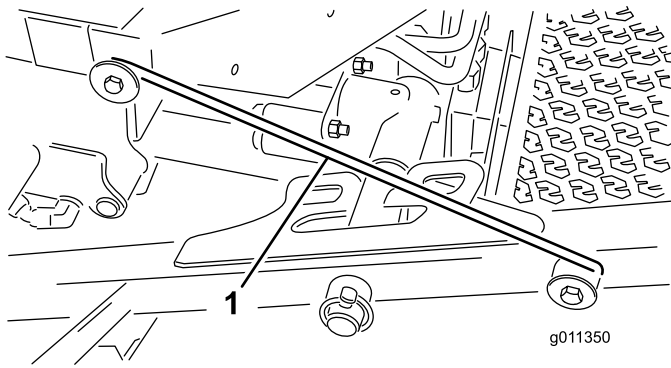

Figure 35
4. Release the latch rod (Figure 35) from front carrier frame retainer.
5. Lift the outside of the front cutting decks and place the latch over the frame pin mounted on the front of the operator's platform (Figure 35).